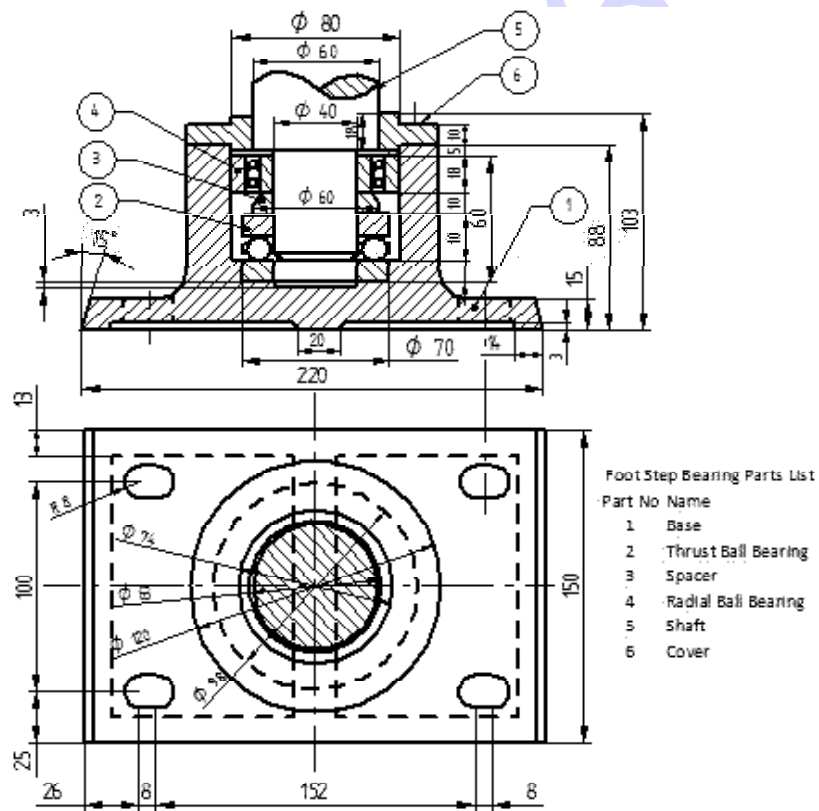

Fig.2 (Foot step Bearing)
- 6) Study the given assembly drawing of foot Step Bearing given in the (fig. 2) (20+8+3+4+5M)